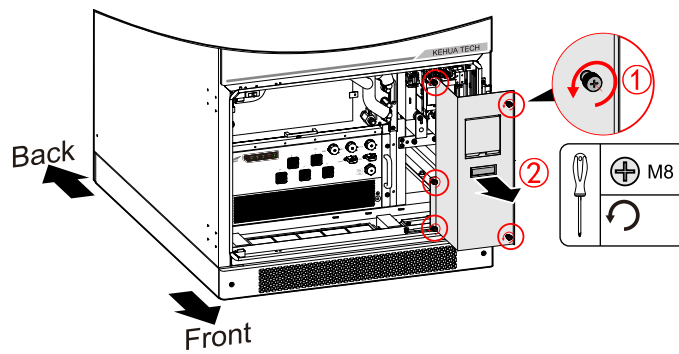

Figure4-13 Dismantle AC wiring plate
Step 2 Unscrew the loose screws of AC wiring plate by screwdriver, and dismantle the wiring plate, as shown in Figure4-13.